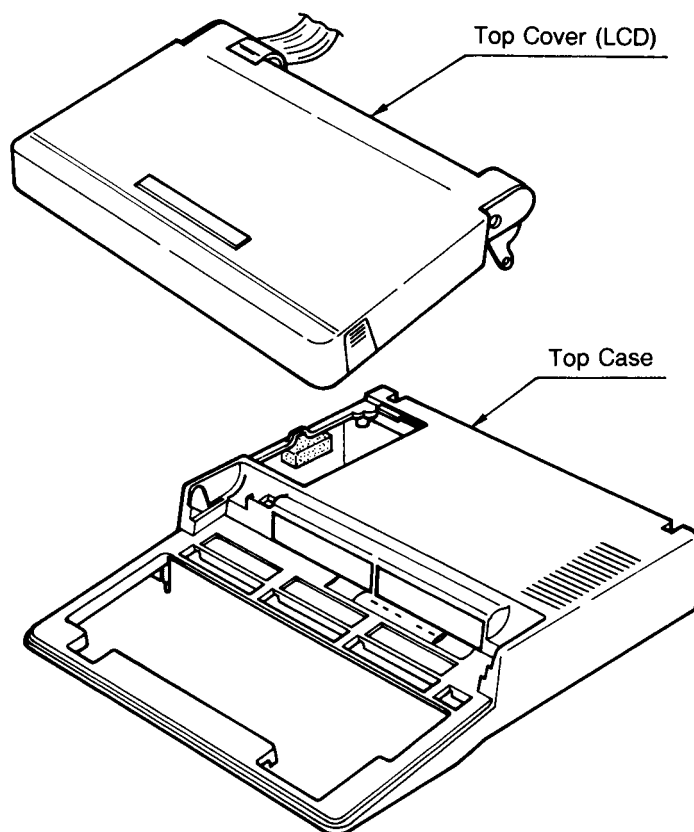

Figure 2-7. Top Cover Removal
- (2) Remove the Top Cover (LCD) from the Top Case. (Figure 2-7)